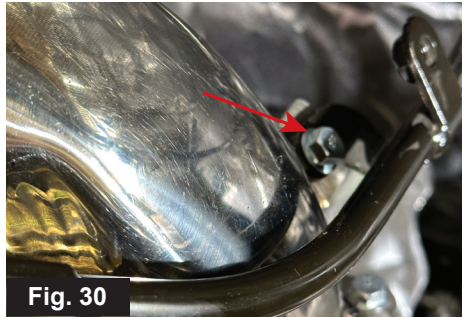
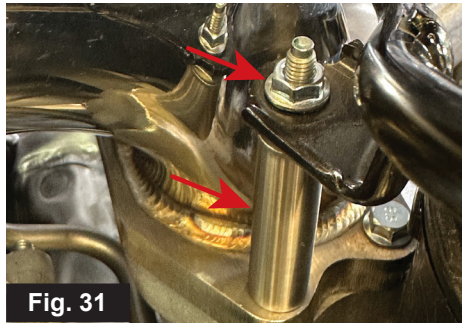

Fig. 30
Fig. 31
7. Position the dipstick back in place. Secure the rear dipstick bracket to the welded tab on the Manifold using one Bolt (O) and one Nut (S) (Fig. 30). Install the front dipstick bracket on top of the factory stud-bolt with spacer (K), secure with Nut (R). (Fig. 31)